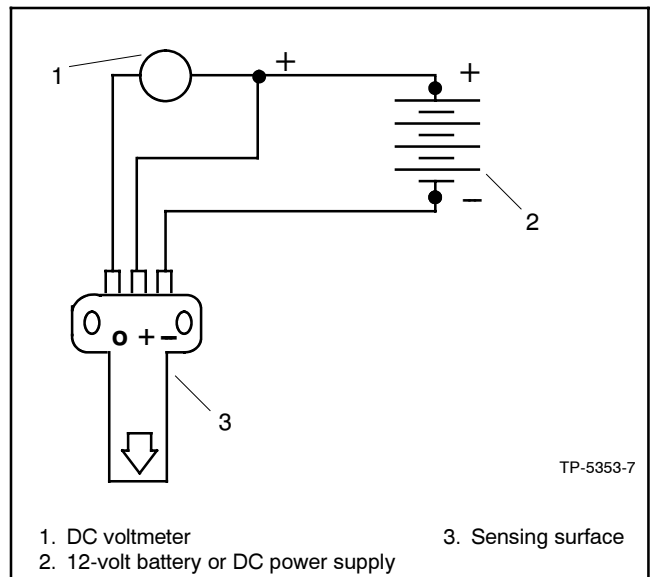

Figure 8-46 Speed Sensor Test
3. Connect speed sensor, DC voltmeter, and DC voltage source as shown in Figure 8-46.